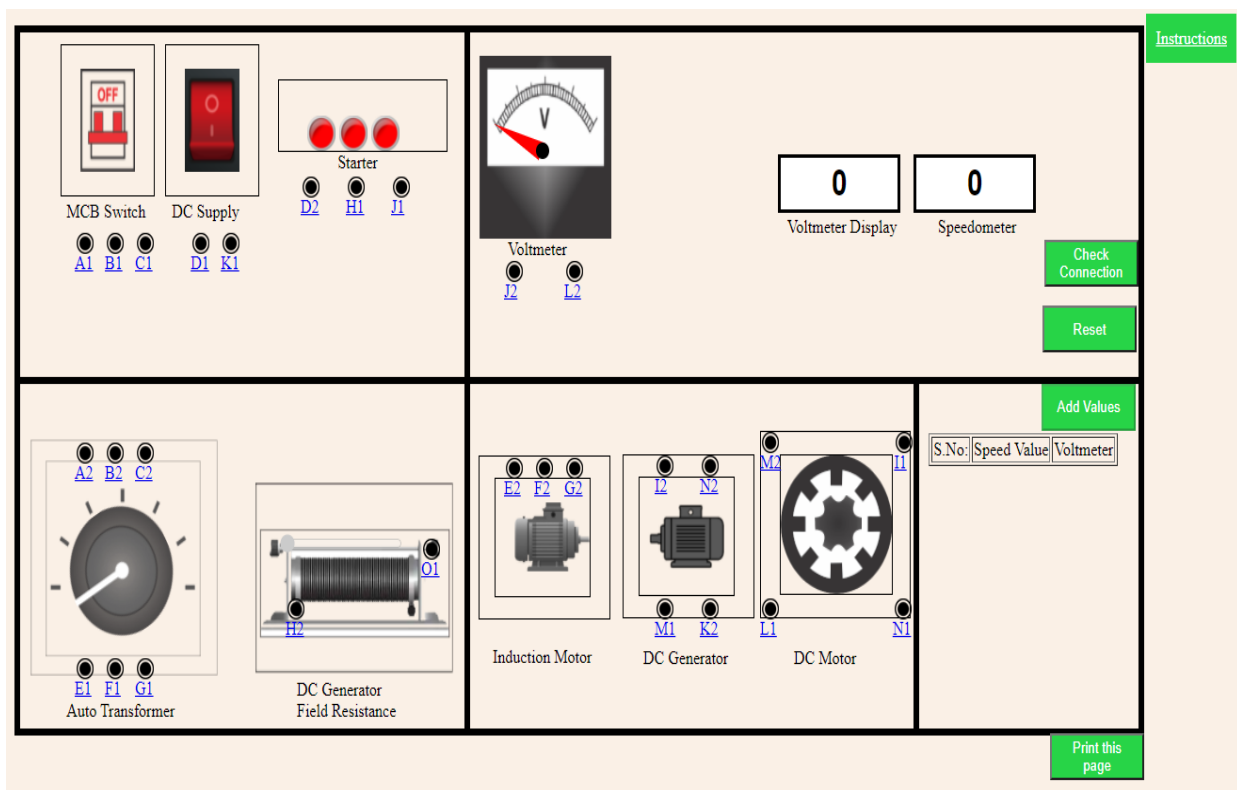

Figure 3: Draw the wiring diagram for this figure.
Step 5.1: Make all the Correct Connections. Refer to the steps below and **draw the wiring diagram in Figure 3.**